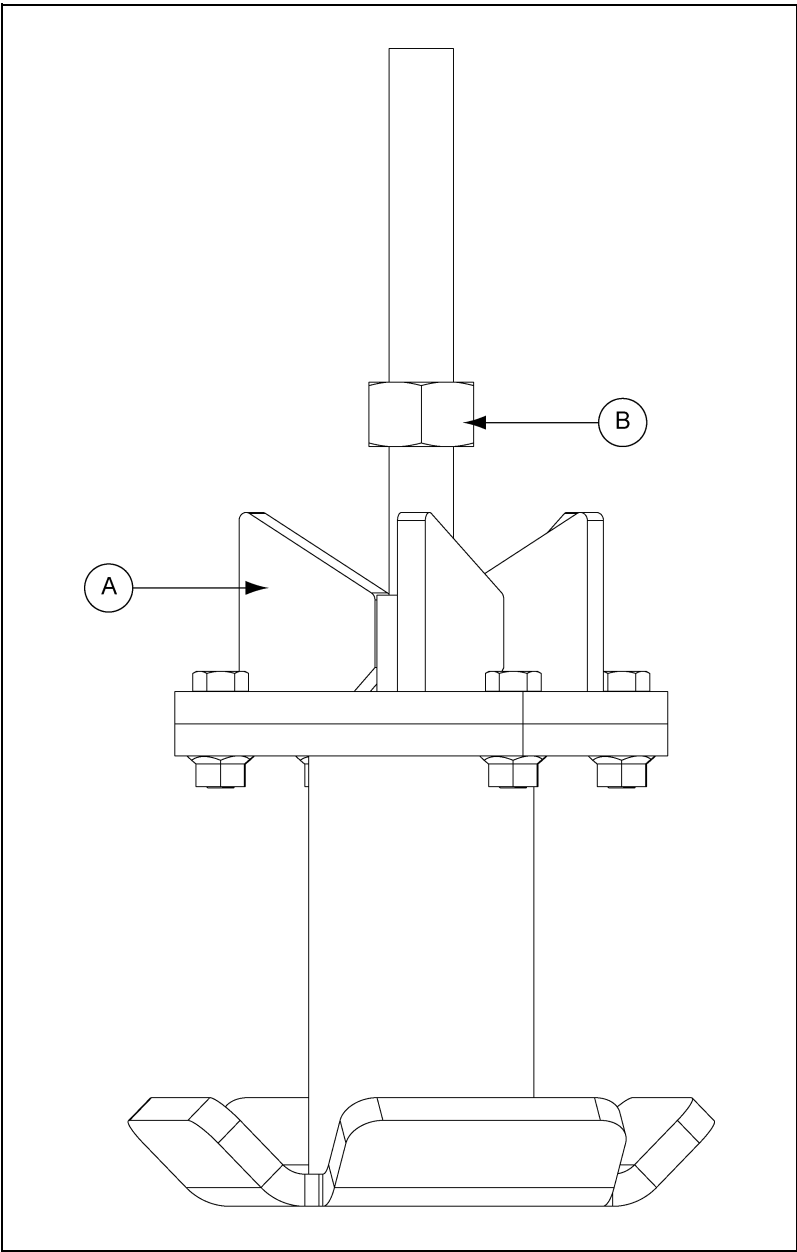

Figure 7W
1. Install hex nut (B) to mount (A). (See Figure 7W.)